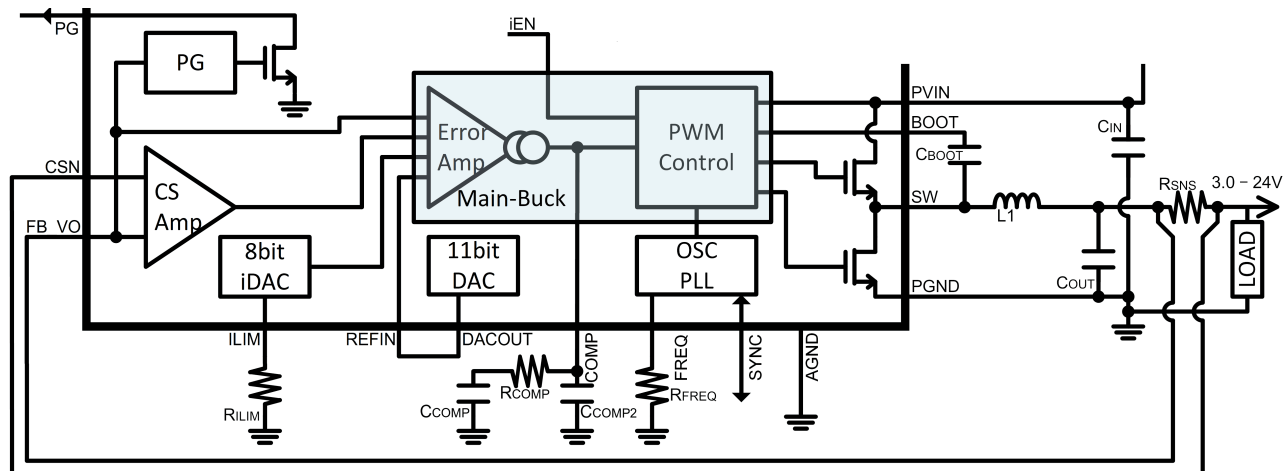

Figure 49. Main-buck Regulator
A compensation network is required between the COMP pin and the ground. See Figure 49 and Main-buck Compensation Network.
The ACT4751 provides a current sense (CS) amplifier to monitor its output current,  $I_{OUT}$ , precisely for the Programmable Current Limit and Over-Current Protection blocks. This CS amp uses the FB\_VO pin and the CSN pin (current sense negative) as its differential inputs and generates a device internal signal,  $V_{CS}$  with a gain of 20, by following the Eq.\(10\). As shown in Figure 49, the FB\_VO and the CSN pins are monitoring an external current sense resistor  $R_{CS}$ .